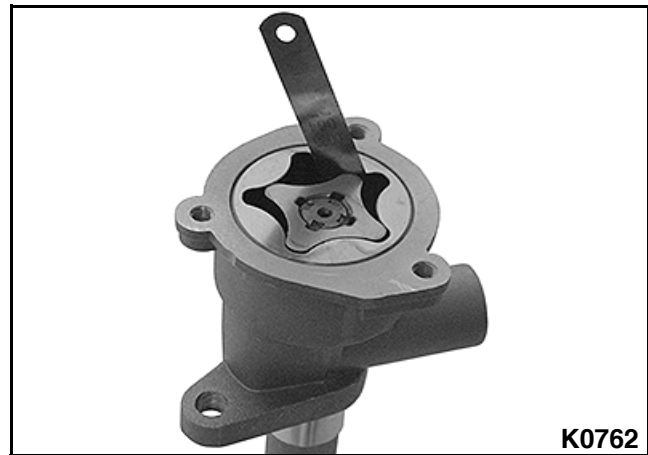

Figure 3-193
6. Use the thickness gauge and measure the tip clearance between the drive and driven rotors. **See Figure 3-193.**